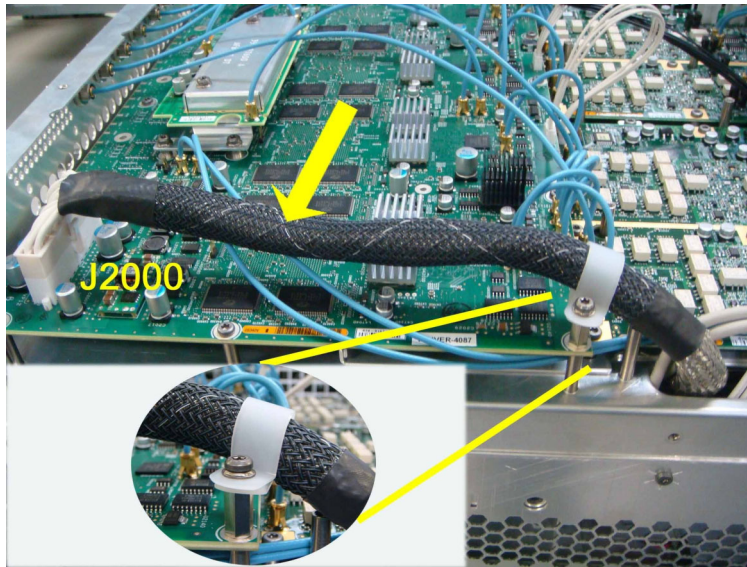

Figure 21: Cable post on the AWG1G board (4 CH)
3. Remove the screw securing the cable post to the AWG1G board, and then remove the cable post. (See Figure 21.)